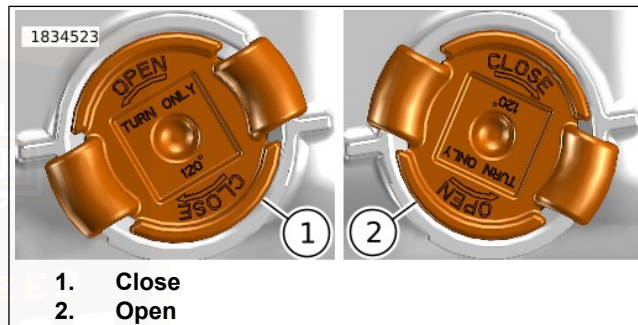

Figure 89. Drain Plug Orientation
- b. See Figure 89. Rotate transmission oil drain plug counterclockwise to open (2) position.
- a. See Figure 89. Place transmission oil drain plug in position open (2).
- b. Rotate transmission oil drain plug clockwise to position close (1).